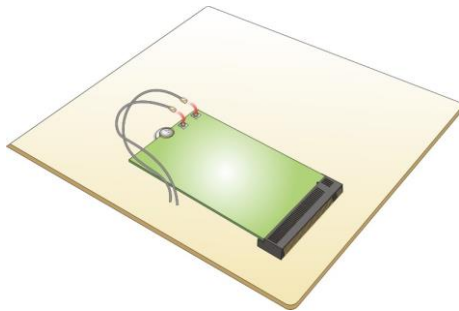

Figure 3-8: Connecting RF Cables
Step5. Connect the two RF cables to the antenna connectors on the WLAN module (Figure 3-8).